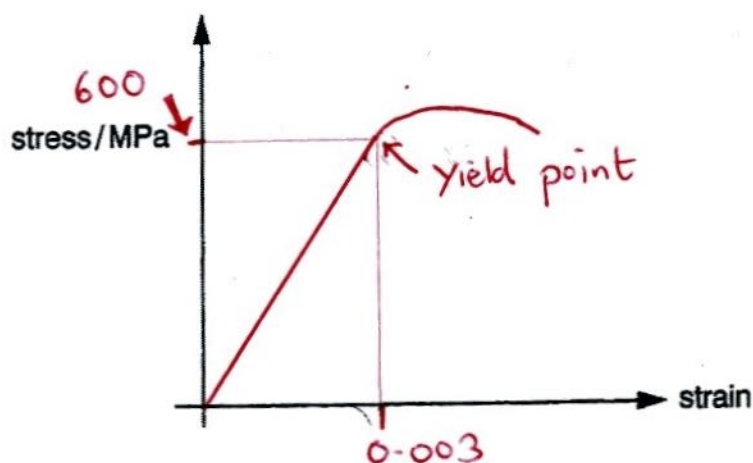

Fig. 10
- (iii) Sketch the shape of the stress/strain graph for steel on Fig. 10. Mark on your graph the point where the steel yields.